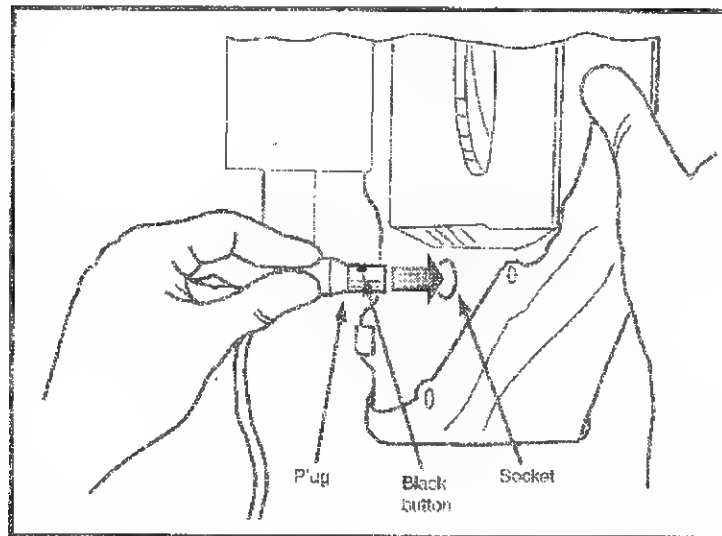

Figure 6
1. Align the connector pins and socket. Then, insert the plug into the socket with the black button facing outward (refer to Figure 6).